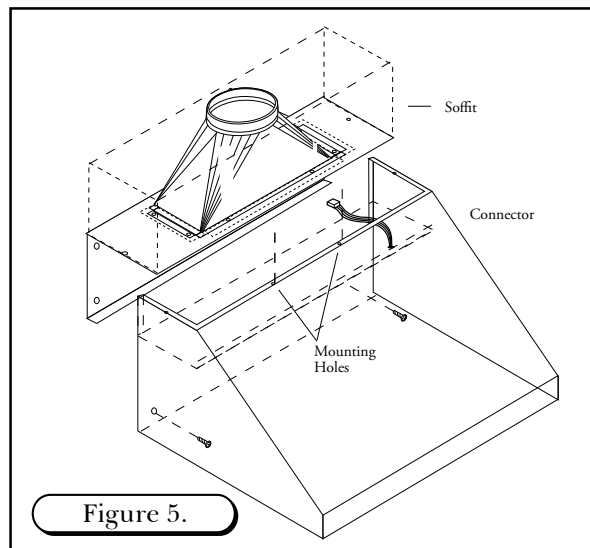

Figure 5.
1. Attach the hood to the removable back panel by aligning the welded studs on the removable back panel with the slotted holes on the back of the hood. (See Figure 5)
2. Using the screws provided, secure the hood assembly to the removable back panel. (See Figure 5)